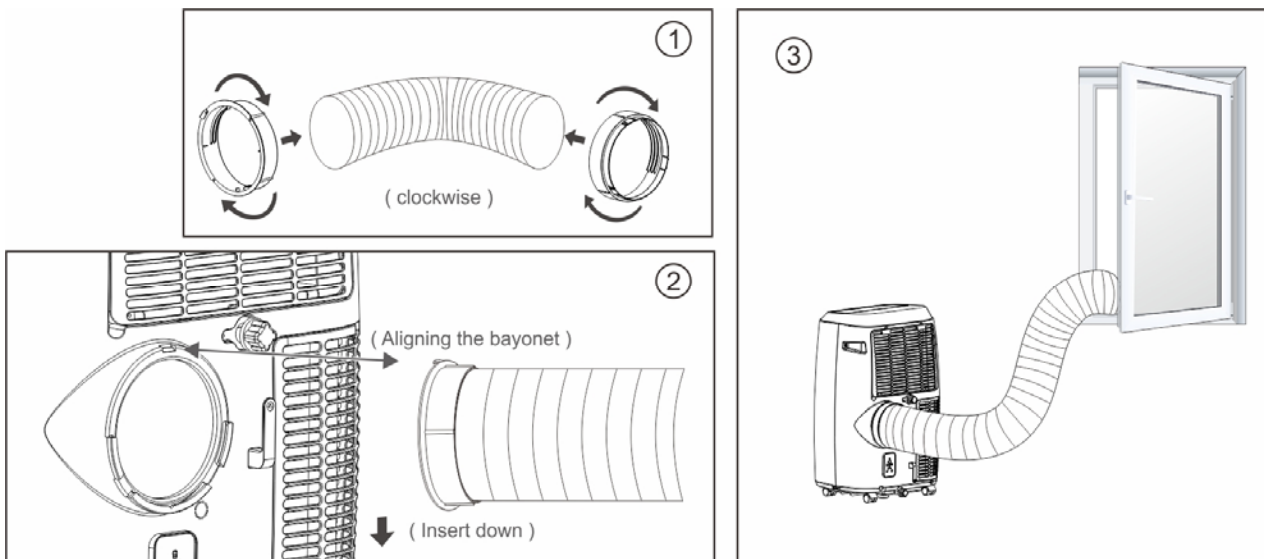

Fig.9
3. Put the other end of the exhaust hose to the near windows ill(see Fig.9).